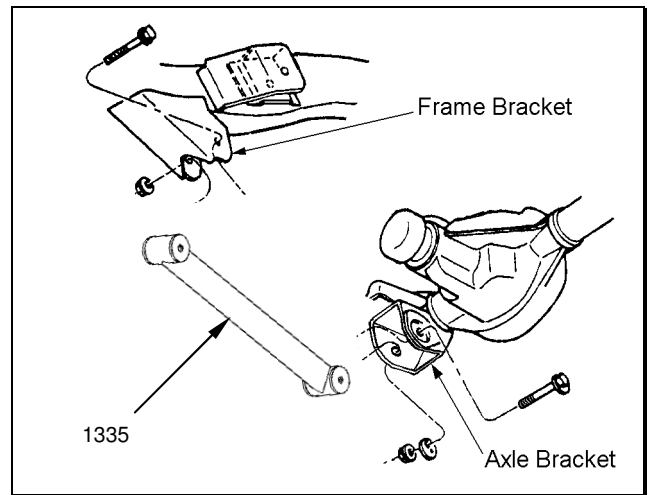

Figure 6
5)  Install new Rancho suspension link 1335 to the frame and axle brackets as shown in figure 6. Use original hardware but do not tighten. Tightening the bolts at this point could create ride height issues.